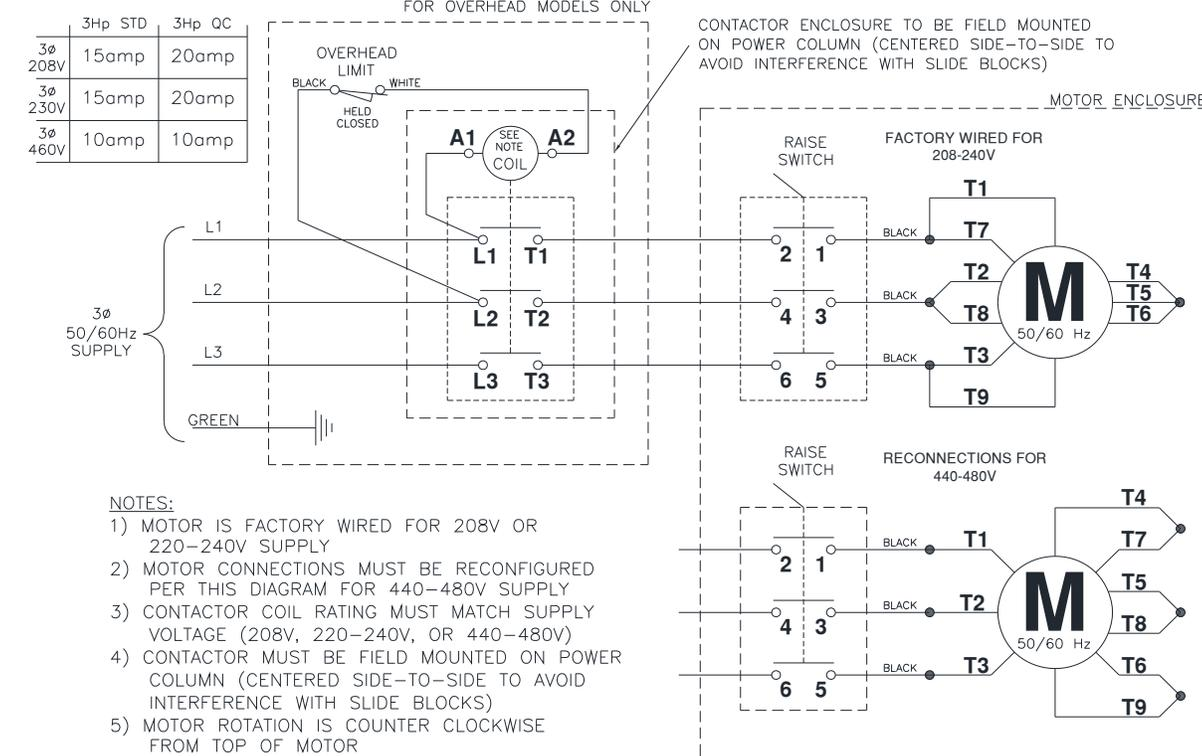

Fig. 18 – Electrical Wiring Diagram
ELECTRICAL (SEE FIG. 18, PAGE 12)
- 45) Connect the overhead limit switch cord to power unit as shown in **Fig. 18**.
- 46) Connect power unit to suitable electrical source as shown in **Fig. 18**.